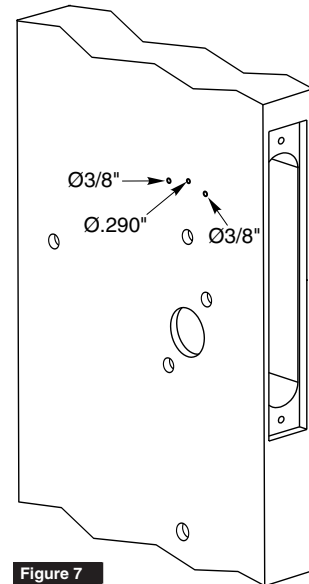

Figure 7
14. Drill two (2) thru-bolt holes (9/16") halfway through one side of door.
15. Drill two (2) thru-bolt holes (9/16") through from opposite side of door.
Drill one (1) middle hole (.290") and two (2) outer holes (3/8") halfway through door. (Figure 7)